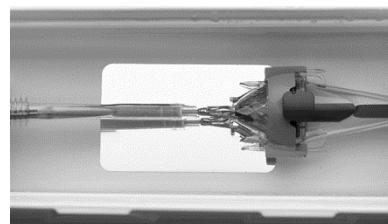

Figure 34
8. Retract the catheter tip guide tube to set the bioprostheses frame paddles into the paddle attachment pockets (Figure 34).